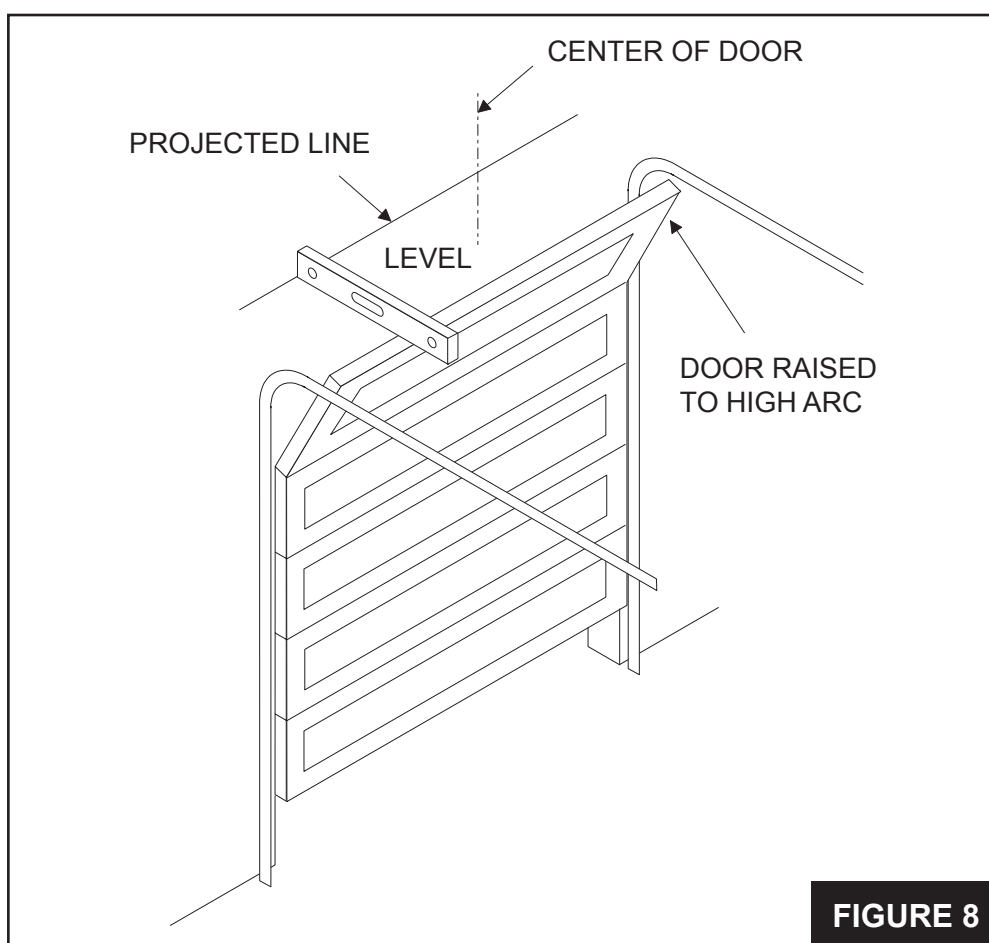

FIGURE 8
2. Slowly raise the garage door and observe the action of the top section. When the top section reaches the highest point (high arc), use a level and project a line from this point to the center of the door (See **Figure 8**).
3. Refer to **Figure 8**. Depress the Limit Nut Retaining Bracket away from the slots in the limit nuts. Turn the Close Limit Nut on the shaft until it engages the Close Limit Switch. The switch will sound an audible “click” when engaged. If there are auxiliary switches present, the limit switch will be the second “click.” Release the Retaining Bracket and be sure that it engages in slots of both limit nuts.